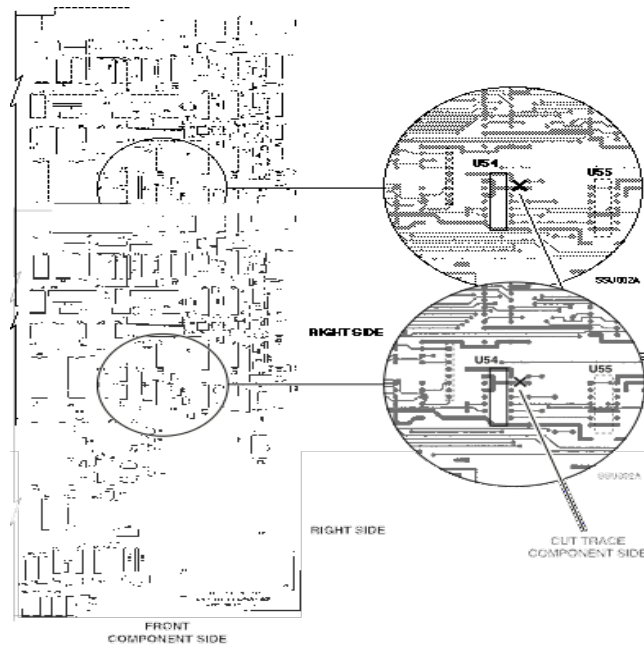

Figure 2. Component Side Trace to Cut
5. On the component side of the board, cut the trace between U54 pin 13 and U55 as shown in Figure 2. This removes the input ground connection from a spare gate in U54. Use an Ohmmeter between pin 13 and TP9, the ground test point to check your work.